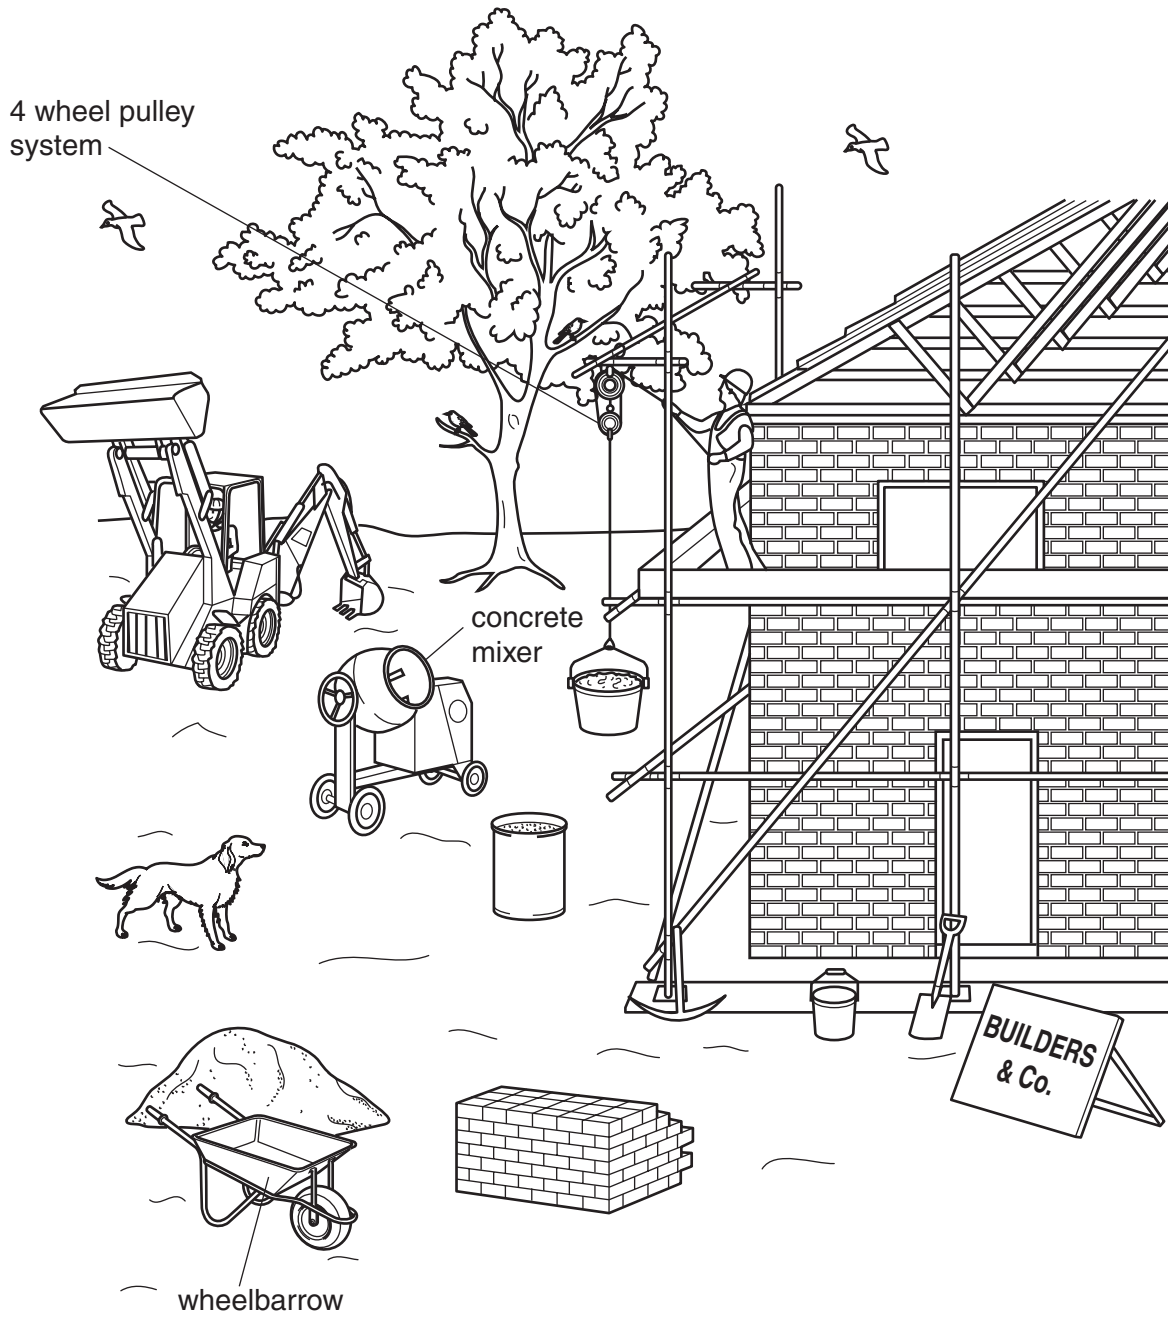

Fig. 1
Fig. 1 shows a typical building site.
1 (a) (i) Identify **three** man-made structures seen in Fig. 1.
(ii) Name **three** natural structures seen in Fig. 1.
- (b) The concrete mixer shown in Fig. 1 uses a sprocket and chain drive. Describe briefly, **one** advantage of using a sprocket and chain instead of a belt and pulley drive.